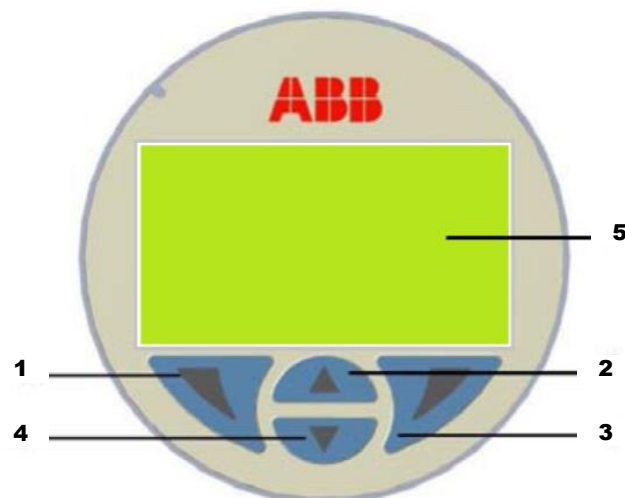

Figure 10: Local HMI display
The local LCD display (Figure 10) is used to access the configuration and management menus. The left and right soft keys (Items 1 and 3) allow users to perform the selected action, which is displayed immediately above the soft keys on the LCD (item 5). Options include Select, Exit, Edit, or Back. The up and down soft keys (items 2 and 4) allow users to scroll up or down and to select values from parameter lists. Access to the Main Menu is achieved by pressing the right soft key. Access to the Operator Menu is achieved by pressing the left soft key.